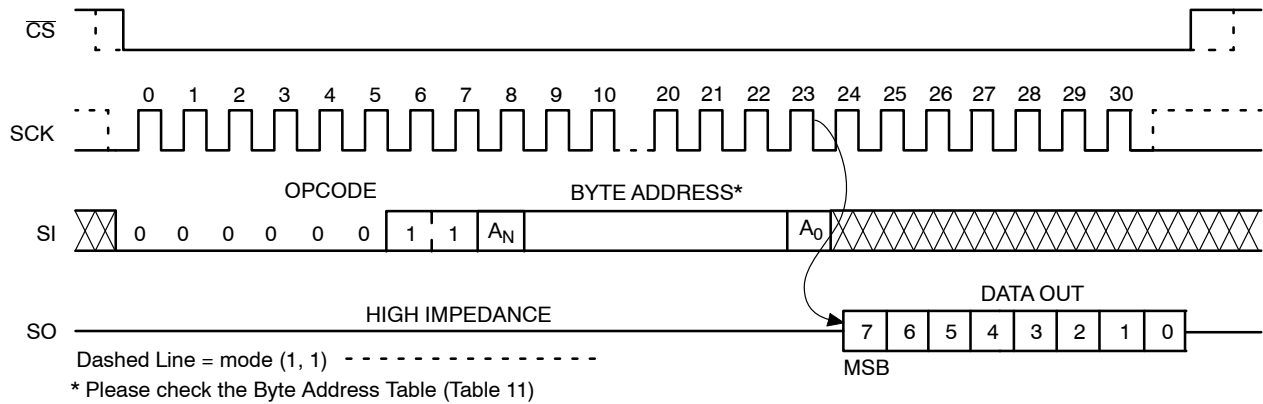

Figure 9. READ Timing
After receiving the last address bit, the CAV25512 will respond by shifting out data on the SO pin (as shown in Figure 9). Sequentially stored data can be read out by simply continuing to run the clock. The internal address pointer is automatically incremented to the next higher address as data is shifted out. After reaching the highest memory address, the address counter “rolls over” to the lowest memory address, and the read cycle can be continued indefinitely. The read operation is terminated by taking \overline{CS} high.
Reading the additional 128-byte Identification Page (IP) is achieved using the same Read command sequence as used for Read from main memory array (Figure 9). **The IPL bit from the Status Register must be set (IPL = 1) before attempting to read from the IP.** The [A6:A0] are the address significant bits that point to the data byte shifted out on the